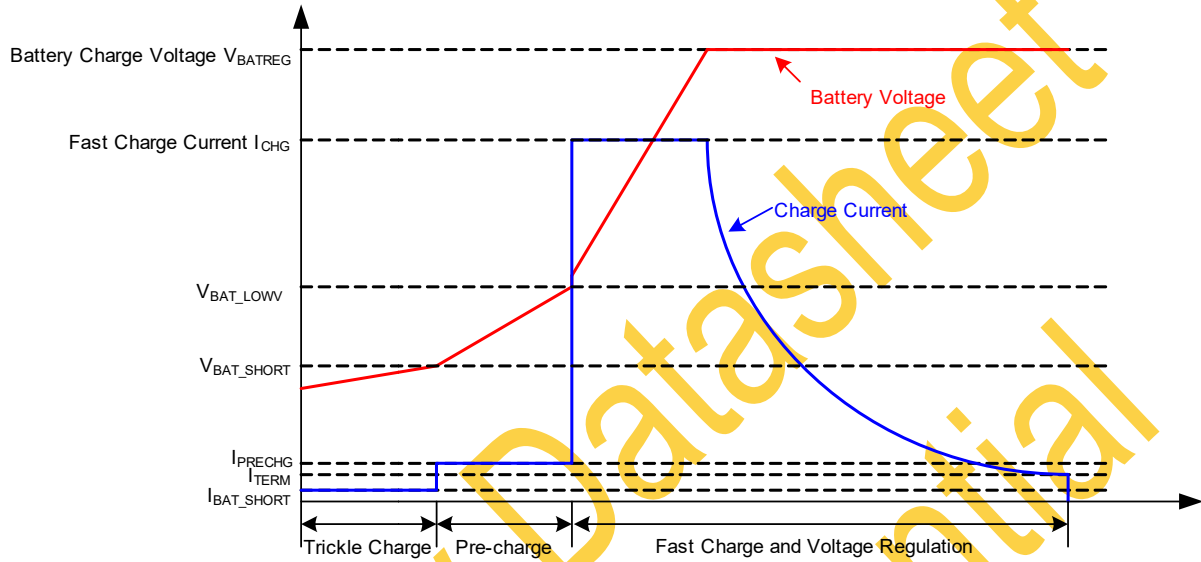

Figure 9. Battery Charge Profile
In Charge Mode as shown in the table of Device Functional Mode, the devices charge the battery in four sub-charge-modes: trickle charge, pre-charge, Constant Current (CC) charge and Constant Voltage (CV) charge as shown in Figure 9. If the battery voltage falls below  $V_{BAT\_SHORT\_FALL}$ , the battery charge battery with trickle charge current  $I_{BAT\_SHORT}$ , when the battery voltage rises above  $V_{BAT\_SHORT\_RISE}$  and below  $V_{BAT\_LOWV\_RISE}$ , the charger charges battery in precharge mode with charge current at  $I_{PRECHG}$ . Fast charge starts once battery voltage rises above  $V_{BAT\_LOWV\_RISE}$ . When battery voltage is close to battery charge voltage  $V_{BATREG}$ , the charger goes into CV mode and charge current starts to decreases. When charge current decreases below termination current  $I_{TERM}$ , charge is terminated and charge cycle ends. Following charge termination, if the battery voltage follows below  $(V_{BATREG} - V_{RECHG\_HYS})$ , a new charge cycle restarts.